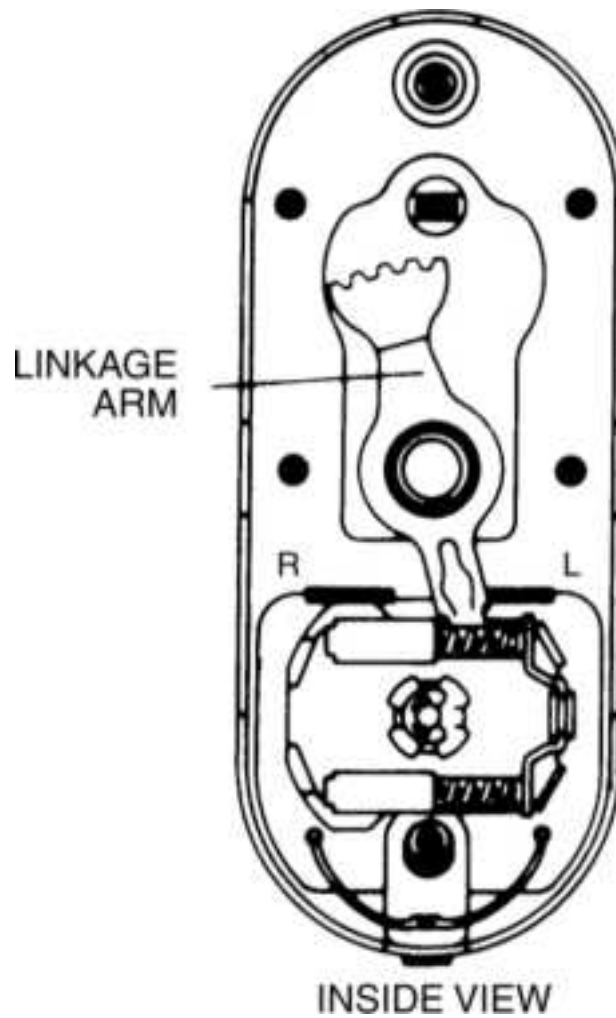

**Figure 13.78** Changing hand, Step 9.
9. Install the linkage arm (Fig. 13.78 ).